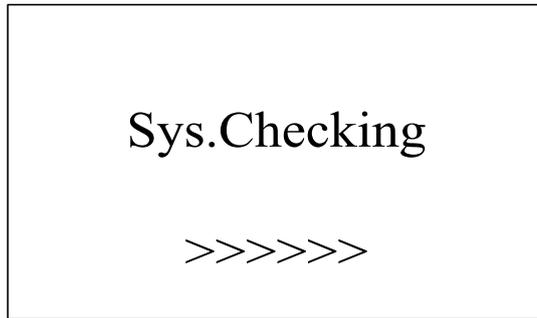
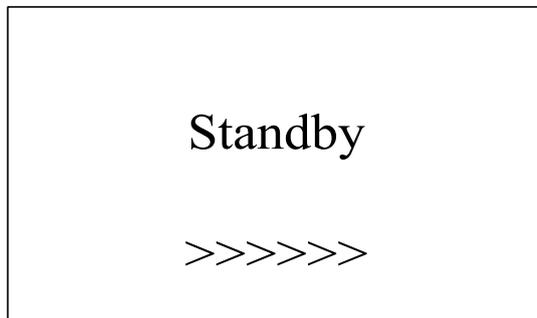
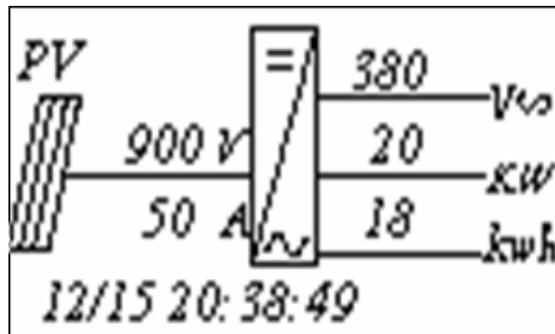
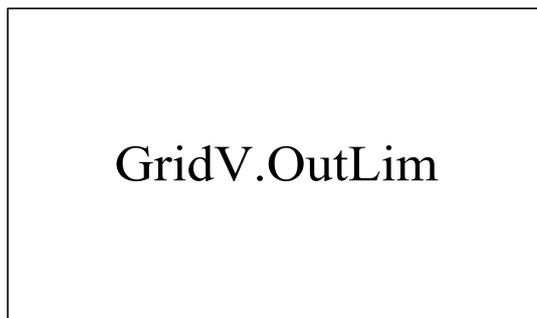

Figure 6-2 Inverter system check ongoing
Figure 6-3 Inverter system in standby mode
Figure 6-4 Default display interface for normal operation
Figure 6-5 Fault indication interface
(1) The LCD interface starts with the company logo once the system is energized as shown in Figure 6-1. Six seconds later, the LCD shows the inverter is running system check as shown in Figure 6-2.
LCD screen will display different mode interfaces based on the operation modes of the inverter. There are four operation modes: startup system check mode (as shown in Figure 6-2), stand-by mode (as shown in Figure 6-3), normal operation mode (as shown in Figure 6-4) and fault mode (as shown in Figure 6-5).